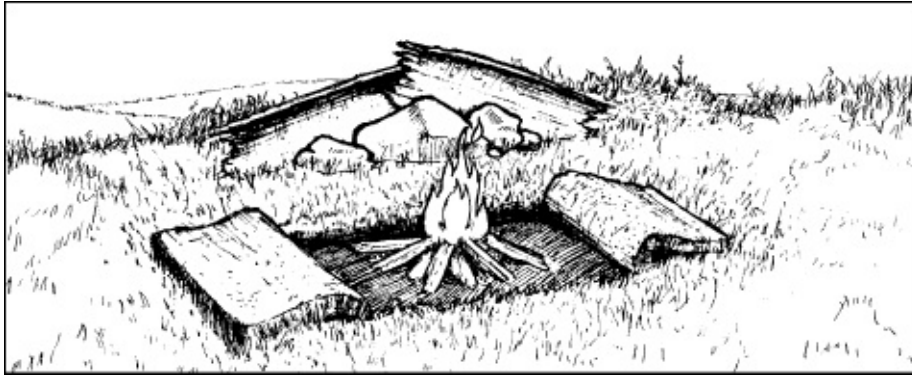

Figure 6-14. Sod fire and reflector
- (3) Sod fire and reflector (**Figure 6-14**). Use fire reflectors to get the most warmth from a fire. Build fires against rocks or logs.